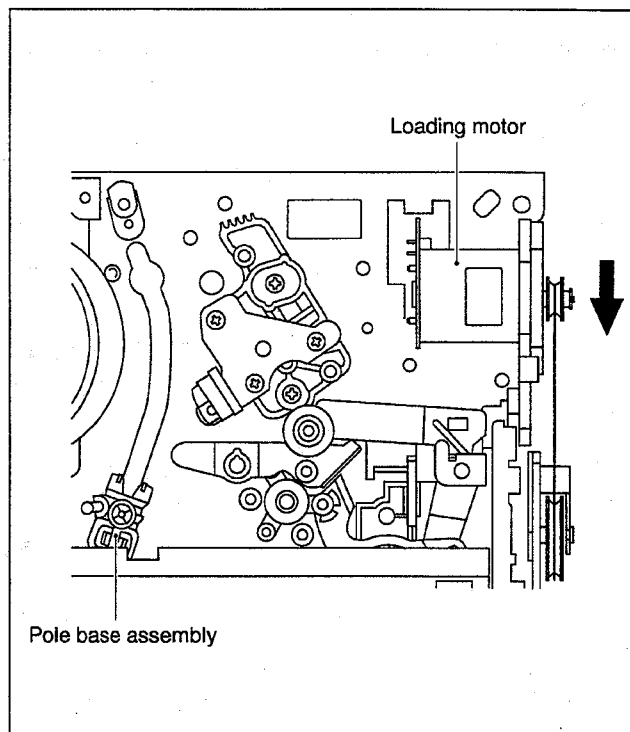
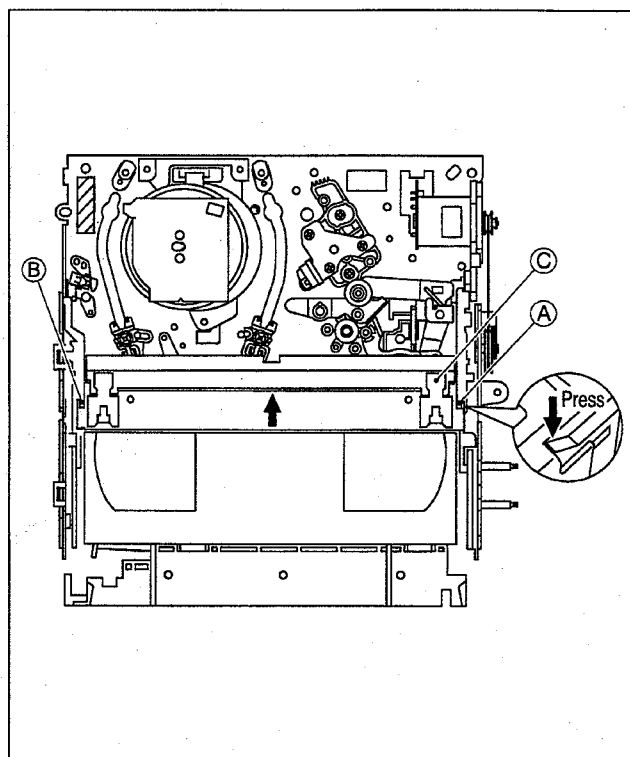

Fig. 2-1-1
Fig. 2-1-2
- (1) Unplug the power cable and remove the top cover, bracket and front panel assembly. (See 1.3 DISASSEMBLY/ASSEMBLY METHOD)
- (2) Unload the cassette by manually turning the unloading motor of the main deck assembly toward the front. In doing so, hold the tape by the hand to keep the slack away from any grease. (See Fig.2-1-1)
- (3) Bring the pole base assembly (on the supply or take-up side) to a pause when it reaches the position where it is hidden behind the cassette tape.
- (4) Move the top plate toward the drum while holding down the lug **(A)** of the bracket retaining the top plate. Likewise hold part **(B)** down and remove the top plate. The spring plate **(C)** is then brought under the cassette lid. Then remove the top plate by pressing the whole cassette tape down. (Note 1) (See Fig.2-1-2).
- (5) Remove the cassette tape by holding both the slackened tape and the cassette lid.
- (6) Take up the slack of the tape into the cassette. This completes removal of the cassette tape.